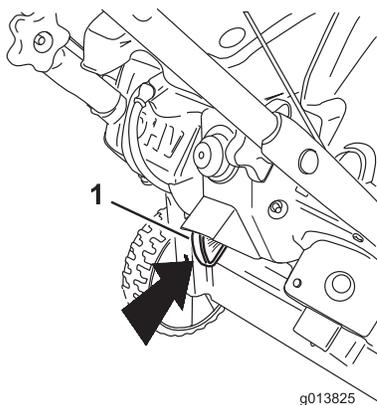

Figure 11
1. Push the ignition key fully inward to the ON position (Figure 11).